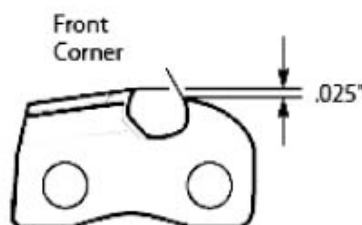

Figure.15
3. Remove depth gauge tool. With flat file, round off front corner of cutter depth gauge (see **Figure 15**).